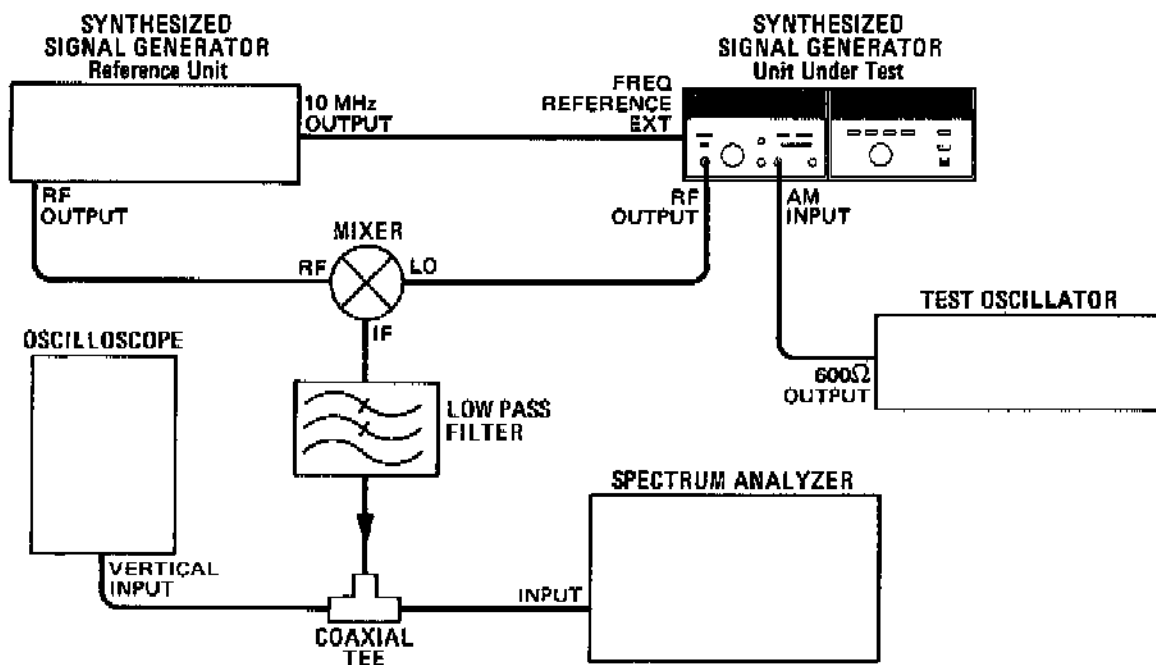

Figure 4-12. Incidental Phase and Frequency Modulation Test Setup
4. Connect the equipment as shown in Figure 4-12.